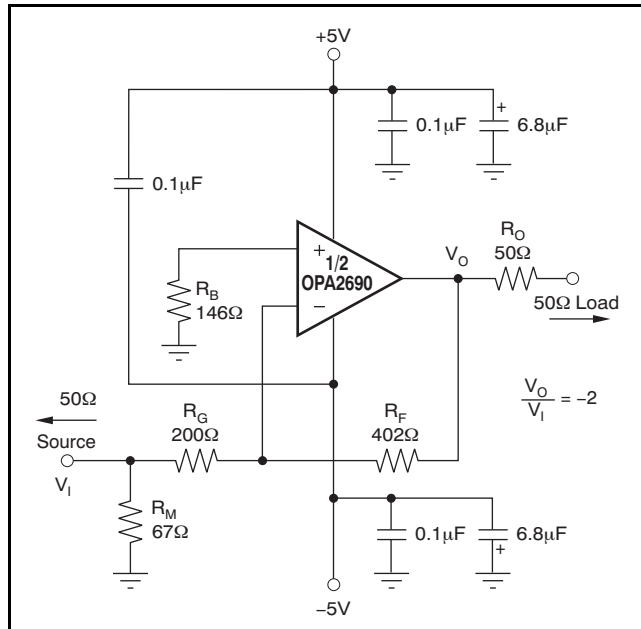

Figure 47. Gain of -2 Example Circuit
Since the OPA2690 is a general-purpose, wideband voltage-feedback op amp, all of the familiar op amp application circuits are available to the designer. Inverting operation is one of the more common requirements and offers several performance benefits. Figure 47 shows a typical inverting configuration where the I/O impedances and signal gain from Figure 36 are retained in an inverting circuit configuration.
100Ω feedback resistor. This has the interesting advantage that the noise gain becomes equal to 2 for a 50Ω source impedance—the same as the noninverting circuits considered in the previous section. The amplifier output, however, will now see the 100Ω feedback resistor in parallel with the external load. In general, the feedback resistor should be limited to the 200Ω to $1.5k\Omega$ range. In this case, it is preferable to increase both the R_F and R_G values, as shown in Figure 47, and then achieve the input matching impedance with a third resistor (R_M) to ground. The total input impedance becomes the parallel combination of R_G and R_M .
The second major consideration, touched on in the previous paragraph, is that the signal source impedance becomes part of the noise gain equation and influences the bandwidth. For the example in Figure 47, the R_M value combines in parallel with the external 50Ω source impedance, yielding an effective driving impedance of $50\Omega \parallel 67\Omega = 28.6\Omega$. This impedance is added in series with R_G for calculating the noise gain (NG). The resultant NG is 2.8 for Figure 47, as opposed to only 2 if R_M could be eliminated as discussed above. The bandwidth will therefore be slightly lower for the gain of -2 circuit of Figure 47 than for the gain of $+2$ circuit of Figure 36.
The third important consideration in inverting amplifier design is setting the bias current cancellation resistor on the noninverting input (R_B). If this resistor is set equal to the total dc resistance looking out of the inverting node, the output dc error, due to the input bias currents, will be reduced to (Input Offset Current) $\times R_F$. If the 50Ω source impedance is dc-coupled in Figure 47, the total resistance to ground on the inverting input will be 228Ω . Combining this in parallel with the feedback resistor gives the $R_B = 146\Omega$ used in this example. To reduce the additional high-frequency noise introduced by this resistor, it is sometimes bypassed with a capacitor. As long as $R_B < 350\Omega$, the capacitor is not required because the total noise contribution of all other terms will be less than that of the op amp input noise voltage. As a minimum, the OPA2690 requires an R_B value of 50Ω to damp out parasitic-induced peaking—a direct short to ground on the noninverting input runs the risk of a very high-frequency instability in the input stage.
Evaluating these two equations for the OPA2690 circuit and component values (see Figure 36) gives a total output spot noise voltage of 12.3nV/√Hz and a total equivalent input spot noise voltage of 6.1nV/√Hz. This is including the noise added by the bias current cancellation resistor (175Ω) on the noninverting input. This total input-referred spot noise voltage is only slightly higher than the 5.5nV/√Hz specification for the op amp voltage noise alone. This will be the case as long as the impedances appearing at each op amp input are limited to the previously recommend maximum value of 300Ω. Keeping both $(R_F \parallel R_G)$ and the noninverting input source impedance less than 300Ω will satisfy both noise and frequency response flatness considerations. As the resistor-induced noise is relatively negligible, additional capacitive decoupling across the bias current cancellation resistor (R_B) for the inverting op amp configuration of Figure 47 is not required.